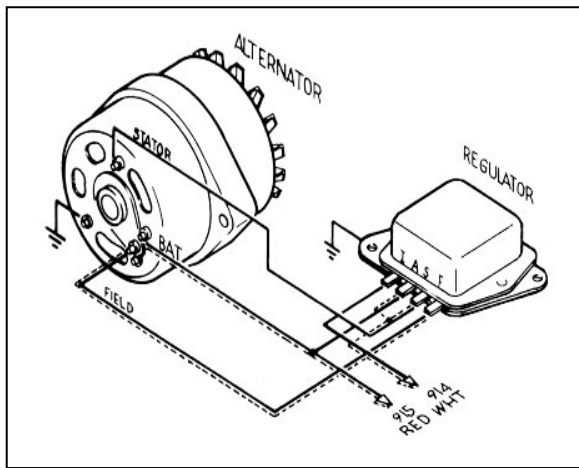

Figure 9-1A Ford Alternator (2 configurations)
- 9.1.5** An alternate (and less-used) method is to omit the Alternator Stator wire, install a 14-gauge jumper across Voltage Regulator terminals A & S, and connect wire #14 to either the A or S terminal of the Voltage Regulator. The FIELD wire and wire #915 are connected as above. Do **NOT** install a jumper as in **Paragraph 9.1.2**. The Voltage Regulator Ignition (I) terminal is not connected. Install ground wires as in **Paragraph 9.1.4**. This alternate configuration is illustrated in dashed lines in **Figure 9-1A**.